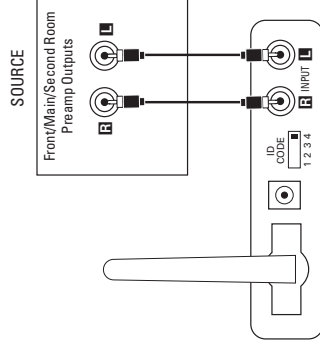

Figure 4.
Connect the interconnect cable (included) to the left and right front/main preamp outputs or zone 2 outputs or REC outputs and the inputs on the transmitter module ④, as shown in Figure 4.